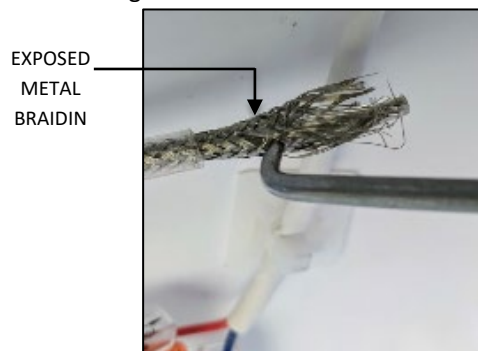
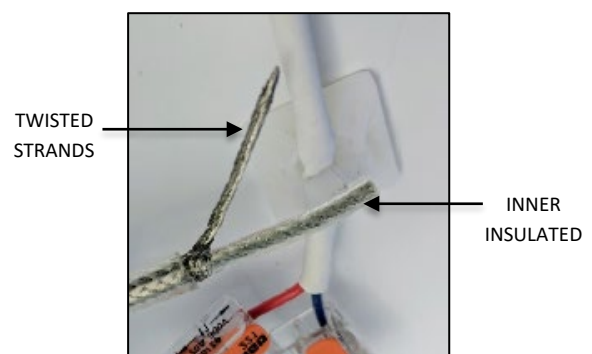

FIG. 28
FIG. 29
2. Using a small pointed object, begin unweaving the exposed metal braiding as shown in FIG. 28 below. Position the unwoven metal strands on one side of the inner insulated wire and twist the individual strands together as shown in FIG. 29 below.